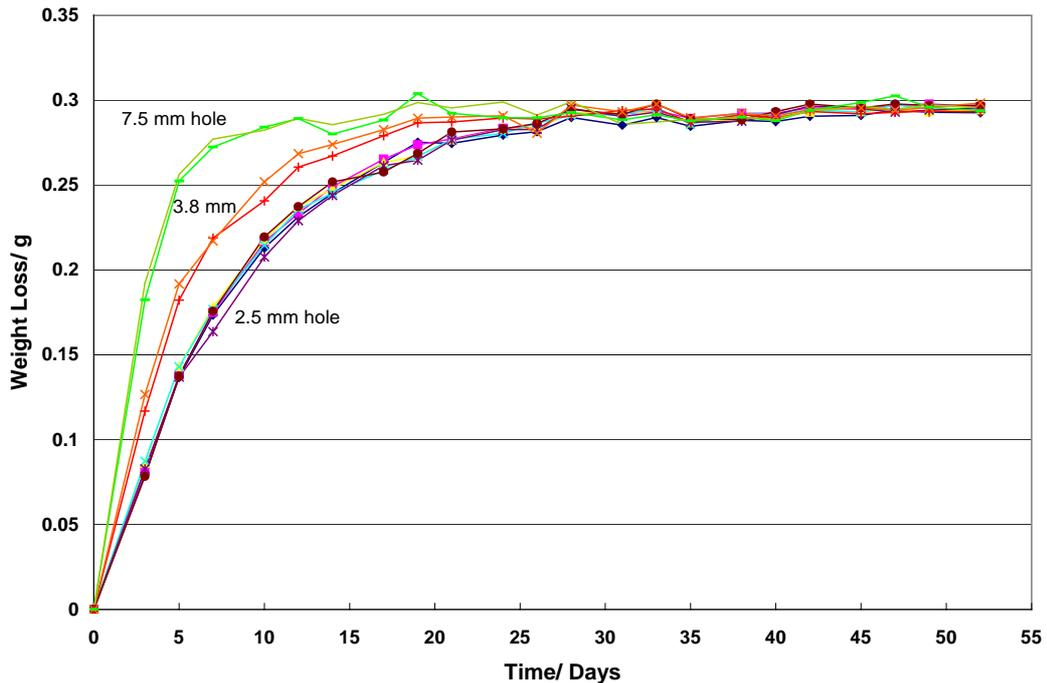

Figure 3. Weight loss for Alphasense H2S-A sensors in 0% rh. Increasing hole size speeds up water loss rate.
How fast does this happen? Figure 3 shows the rate of weight loss (i.e. water loss from the electrolyte) for an H2S-A1 sensor for 50 days when exposed to 0%rh air at 20°C. The sensor reaches a stable weight after 25 to 30 days. Note that sensors with larger gas diffusion holes reach their equilibrium weight in only 10 days while sensors with smaller holes take much longer. The rate of water loss is proportional to the hole area (not hole diameter). Note that sensors with large diffusion holes have high nA/ ppm sensitivity (i.e. are high resolution sensors) and sensors with small diffusion holes have lower nA/ppm sensitivity, with high range and lower sensitivity.
- Short-term excursions into very low or very high humidities are permissible. Figure 3 shows the rate that sensors lose water when exposed to zero relative humidity.